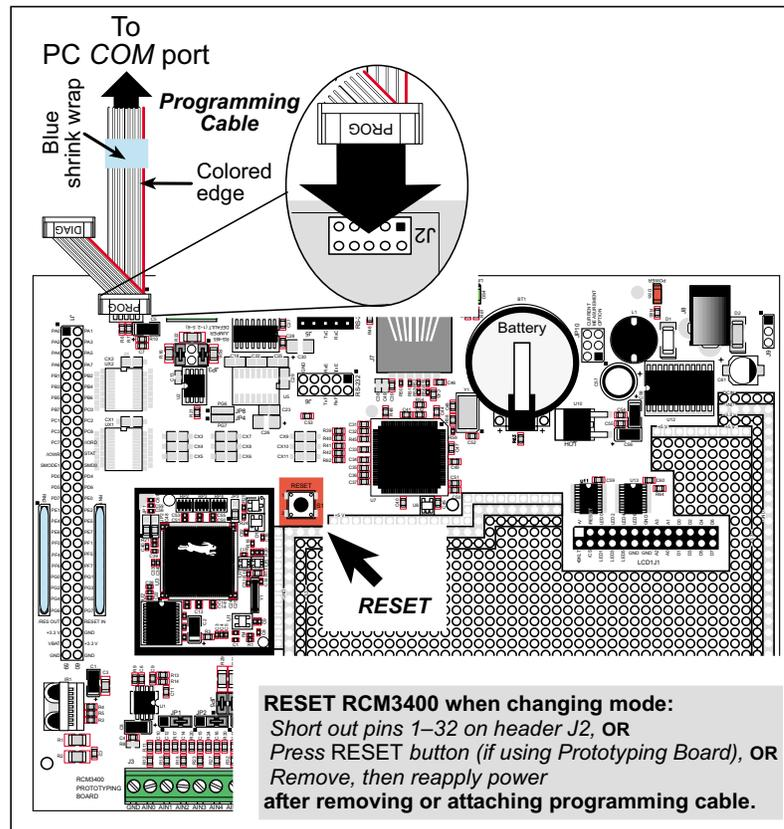

Figure 4. Switching Between Program Mode and Run Mode
To run a sample program, open it with the **File** menu (if it is not still open), compile it using the **Compile** menu (or press **F5**), and then run it by selecting **Run** in the **Run** menu (or press **F9**). The RCM3400 must be in Program Mode (see Figure 4) and must be connected to a PC using the programming cable.
2. Reset the RCM3400. You may do this as explained in Figure 4.